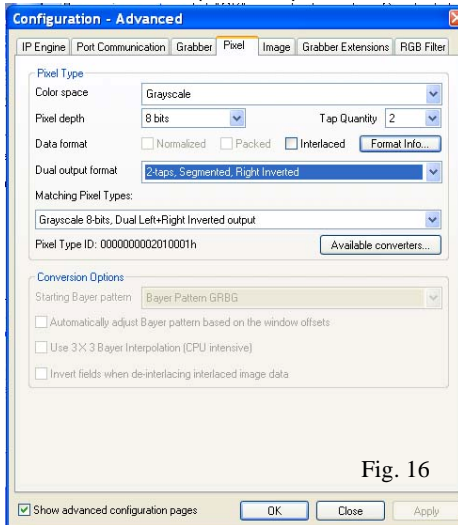

Fig. 16
- Select “Pixel” Tab. The factory default of B/W camera output is 8-bit with Dual output format “Right Inverted”. So select 8-bit (default). And click “OK”. (Fig. 16)